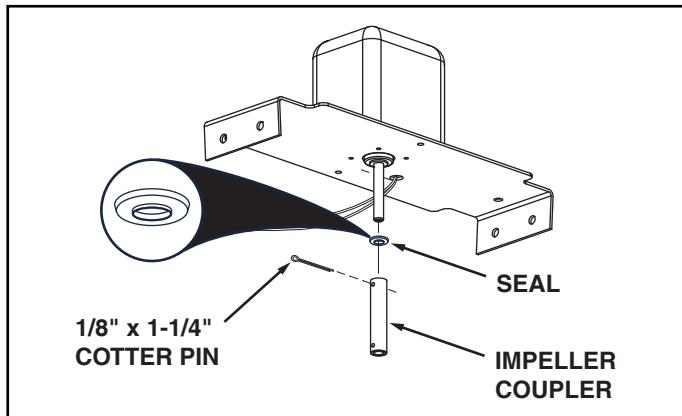

FIGURE 4
7. Assemble a seal (turned as shown in figure 4) onto the motor shaft. Slide it up against the motor.
8. Assemble the impeller coupler onto the motor shaft and secure it with a 1/8" x 1-1/4" cotter pin. Spread the ends of the pin around the coupler. See figure 4.